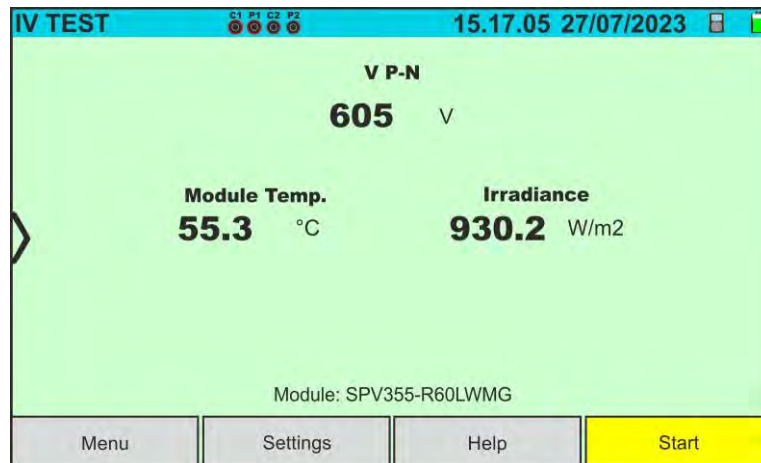

Fig. 34: Initial I-V curve measurement screen on Monofacial modules
4. In the case of **Monofacial** modules, the Fig. 34 screen is present on the display. The following parameters are shown:
5. In the case of **Bifacial** modules, the screen Fig. 34 is present on the display. The following parameters are shown: